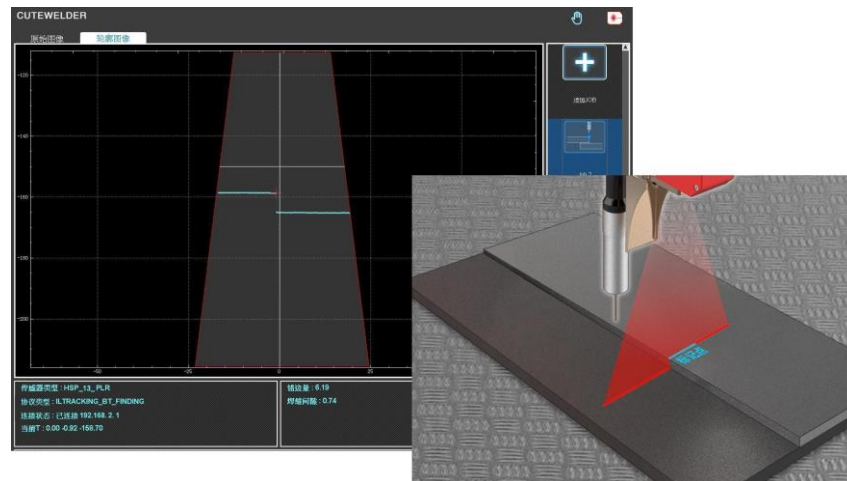

Figure 8-22 Location diagram
Step7. It is necessary to mark a feature point on the sample again, which is the calibration accuracy verification point, and the teaching position is the laser line irradiation position. As shown in Figure 8-22. First move the sensor to shine on this point, and then click <Verify>.